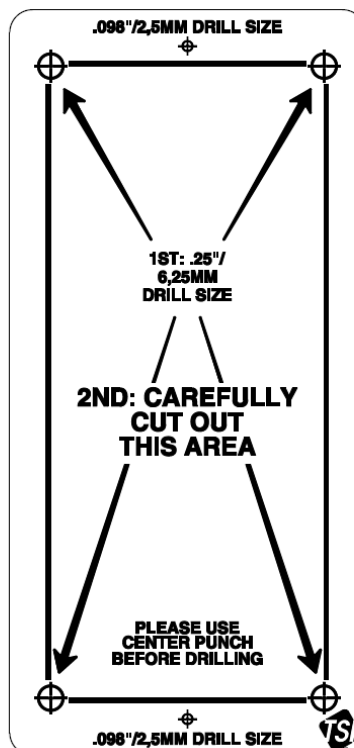

Figure 2: Flush-Mount Template Sticker
3. Following the instructions on the template (using a center punch to mark hole locations prior to drilling), drill the designated holes and cut an opening in the fume hood front panel (Figure 2).